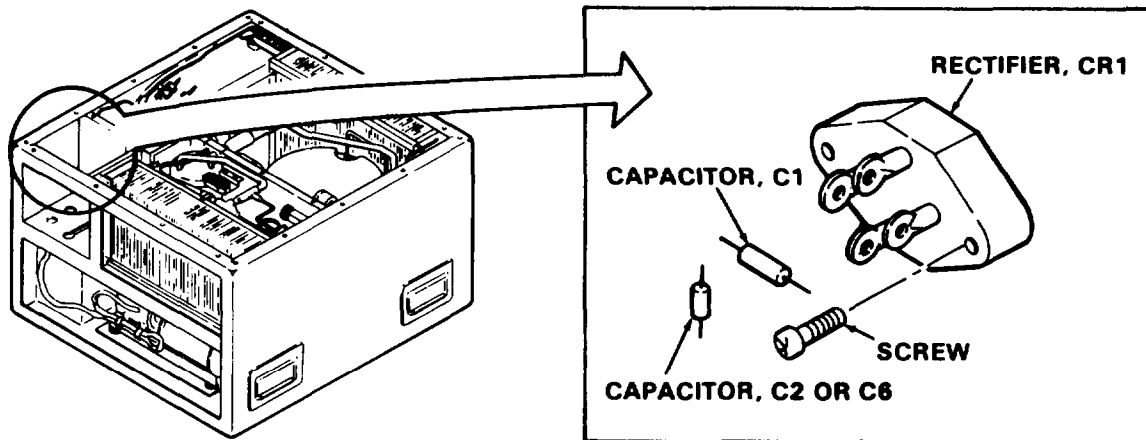

Figure 4-21. Rectifier and capacitors
- (1) Refer to paragraph 4-27 and remove the junction box.
- (2) Refer to figure 4-21 and detach the cable from the rectifier.
- (3) Remove the capacitors from the rectifier cable terminals.
- (4) Remove the rectifier by removing the two mounting screws and washers.
(1) Refer to figure 4-21 and install rectifier.
(2) Refer to FO-1 and install capacitors by crimping leads into cable terminals.
(3) Refer to FO-1 and attach cable to rectifier.
(4) Refer to paragraph 4-27 and install the junction box.